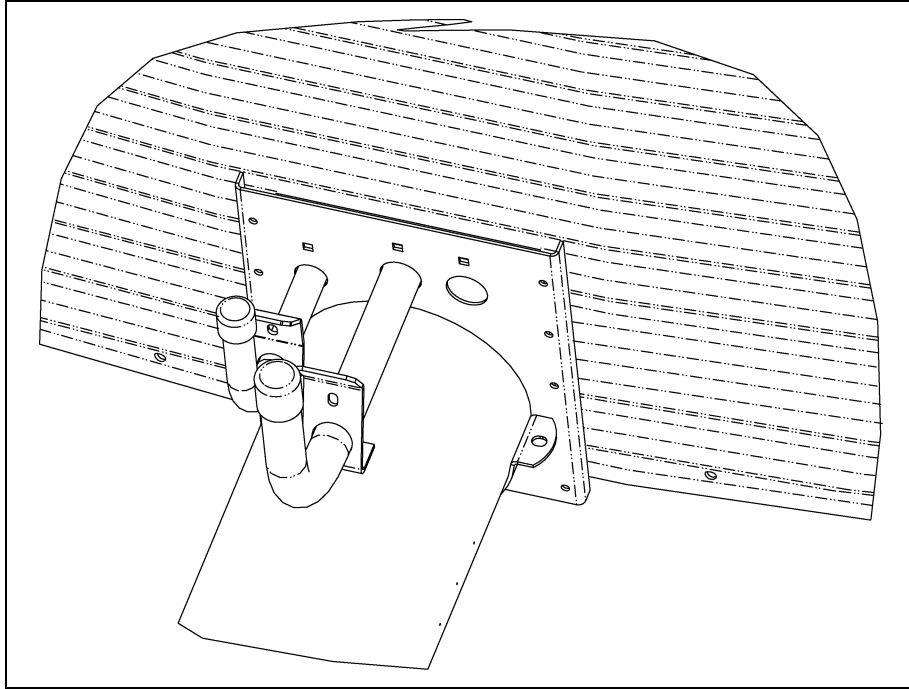
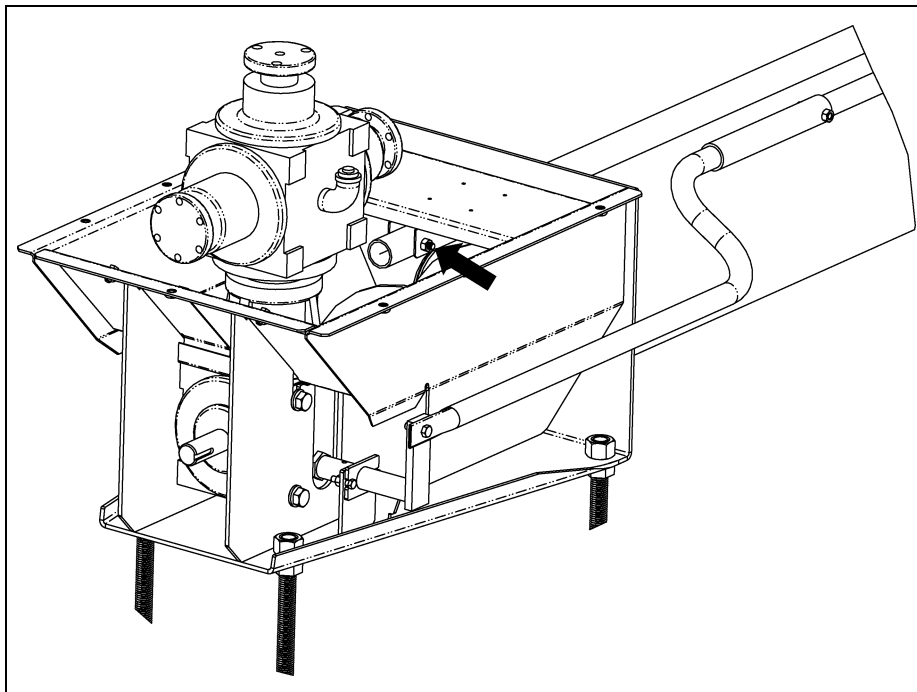
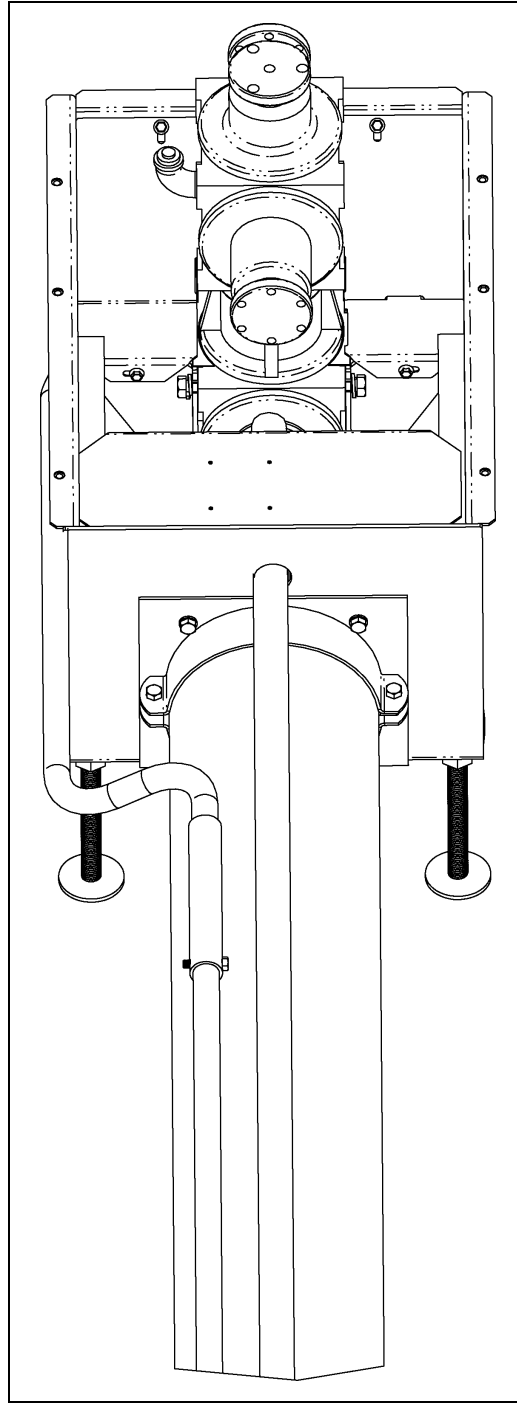

Figure 5O
Figure 5P
Figure 5Q
14. Place the latches onto the slide gate, intermediate sump (if used) and shift lever tubes. Then insert the tubes into the bin wall plate holes, through the support rings on the auger tube. Next, put the slide gate tube through the end of the sump and attach to the slide gate using two (2) 5/16" x 2" hex bolts and lock nuts. Connect the shift lever tube to the offset shift tube with the connecting sleeve using one 5/16" x 1-1/2" grade 5 bolt and lock nut. (See Figure 5O, Figure 5P below and Figure 5Q on Page 23.)